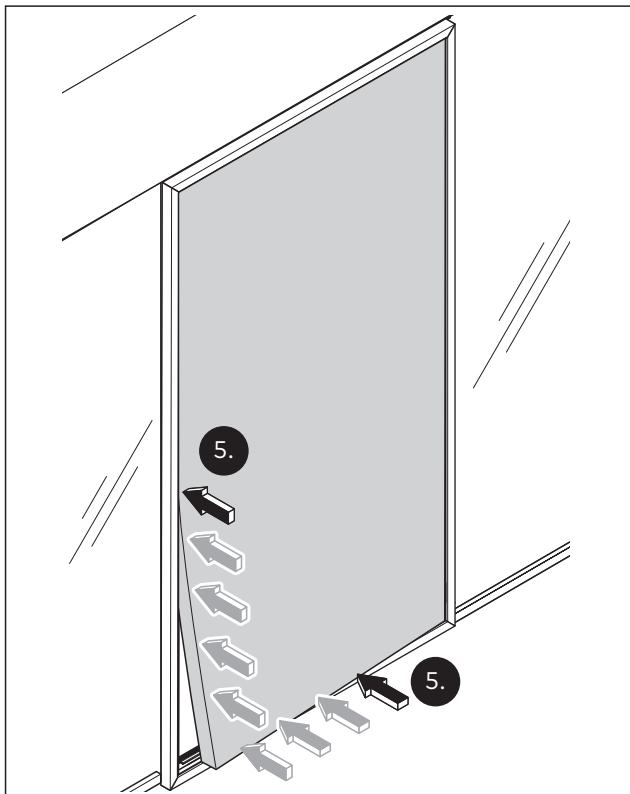

Fig. 41 Press the rubber piping at the bottom left into the groove from the center to the corner
5. Press the rubber piping on the bottom left into the groove from the middle of the profile sides outwards to the corner (Fig. 41).